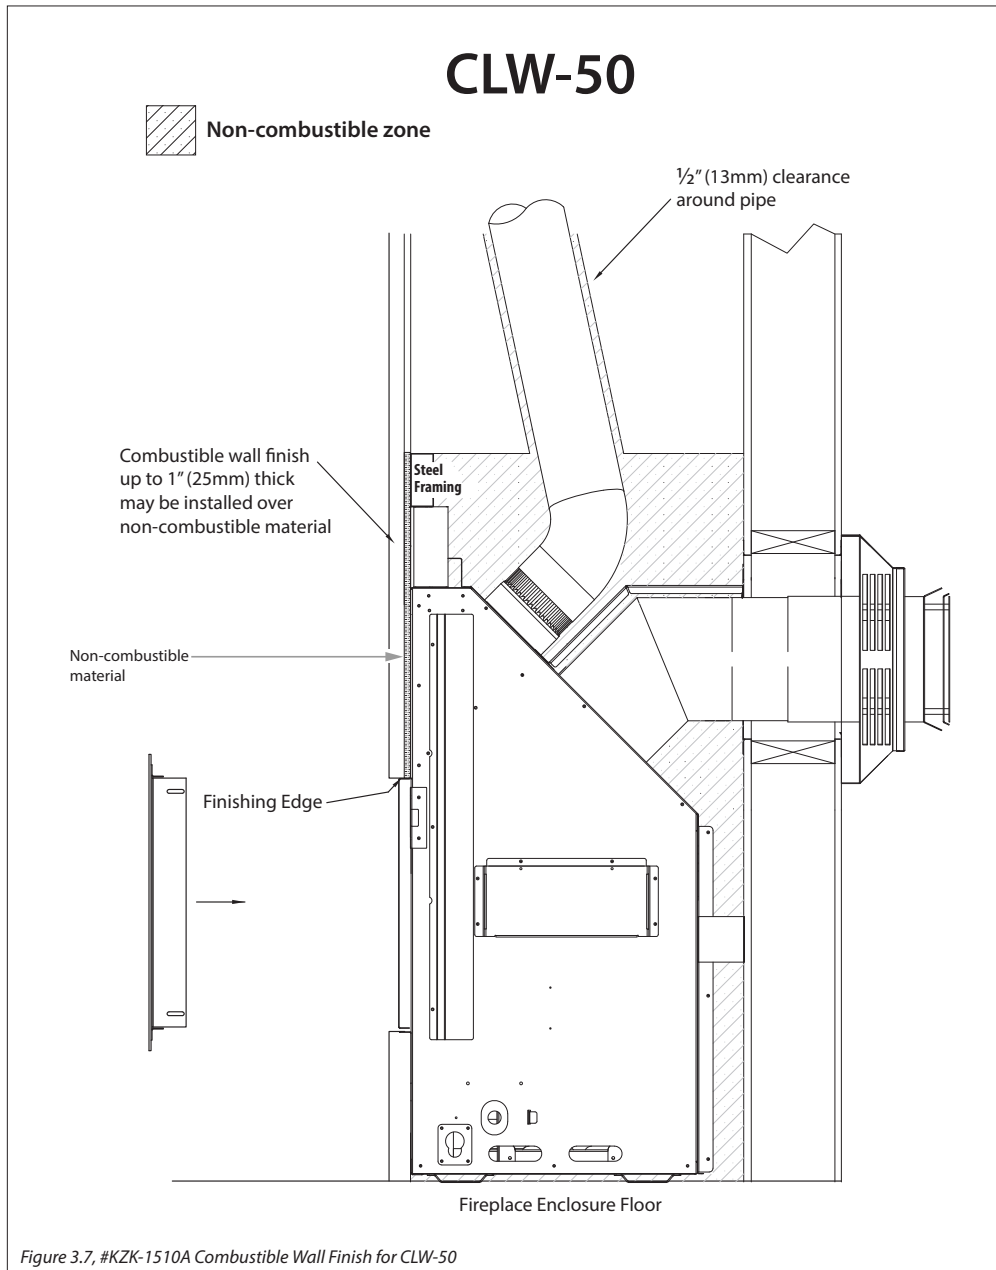

Figure 3.7, #KZK-1510A Combustible Wall Finish for CLW-50
- Figure 3.7 shows installation of combustible wall finish up to 1" thick. This combustible material goes over any required non-combustible materials as shown in Figure 3.1 on page 17.